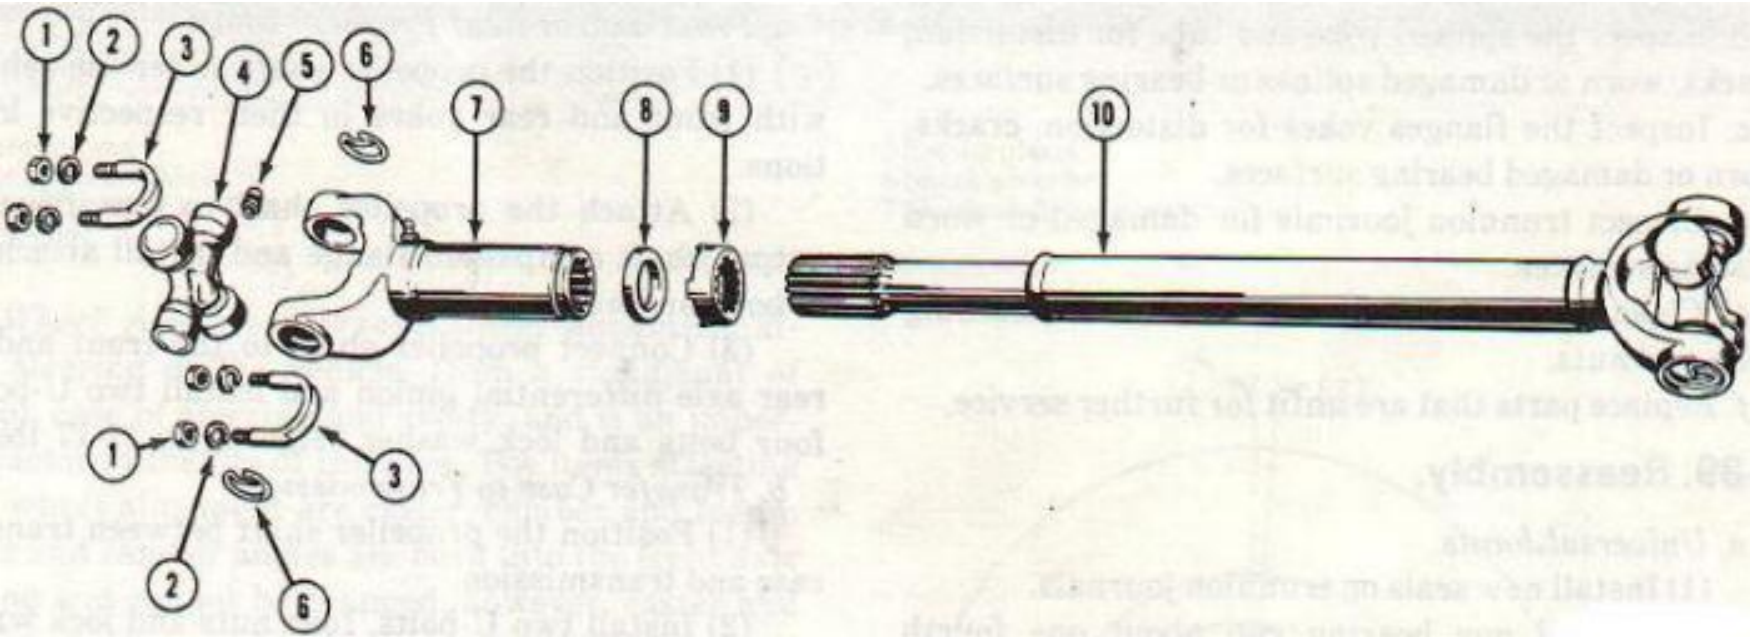

Figure 2.62. Propeller shaft and universal joint.
- (1) Block front and rear wheels and release parking brake. Shift transmission into any gear and transfer case into 2-wheel drive, high gear.
- (2) Remove four nuts and two attaching U-bolts which connect the propeller shaft to the transmission output shaft universal joint yoke and disconnect propeller shaft.
- (3) Remove four nuts, lock washers and two U-bolts which connect the propeller shaft to transfer case input shaft companion flange.
- (4) To free the journals from the end yokes, loosen the transfer case support attaching bolts and slide the transfer back in the slotted bracket holes.
- (5) Remove transmission to transfer case propeller shaft assembly.
b. Front and/or Rear Propeller Shaft. (Fig 2-62)
- (1) Remove four nuts, lock washers and two attaching U-bolts which connect propeller shaft to front and/or rear axle differential pinion.
- (2) Remove four nuts, lock washers and two U-bolts which connect the front axle propeller shaft to transfer case front axle output shaft companion flange.
- (3) Remove four nuts, lock washers and two U-bolts which connect the rear axle propeller shaft to transfer case rear axle output shaft companion flange.
- (4) Remove propeller shaft assembly.
a. Splined Yoke. (Fig 2-62)
- (1) Unscrew dust cap (9) from the threaded yoke shaft and remove yoke (7) from the propeller shaft(10).
- (2) Remove dust cap, oil seal and split washer from yoke shaft.